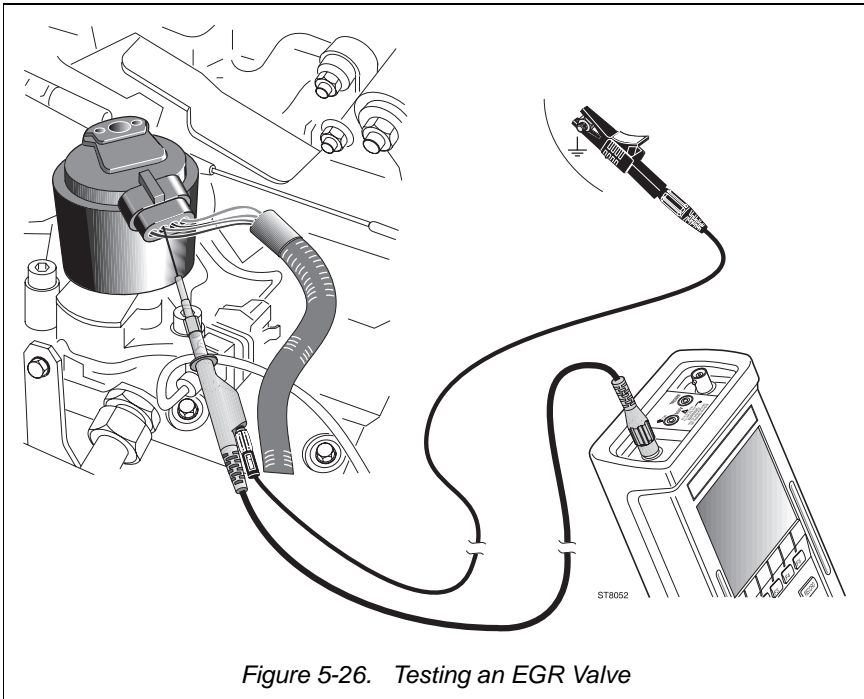

Figure 5-26. Testing an EGR Valve
- ③ Connect the test leads as displayed by the test tool's Connection Help and shown in Figure 5-26.
- ④   Starts the EGR test.